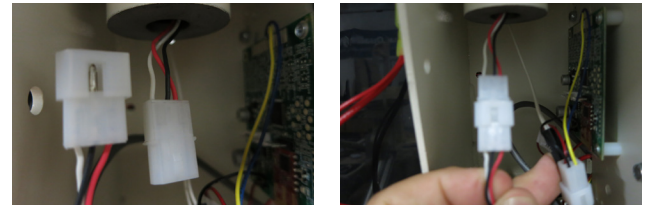

Figure 3-23
5. Connect the seat rocker switch wires. **See Figure 3-23.**